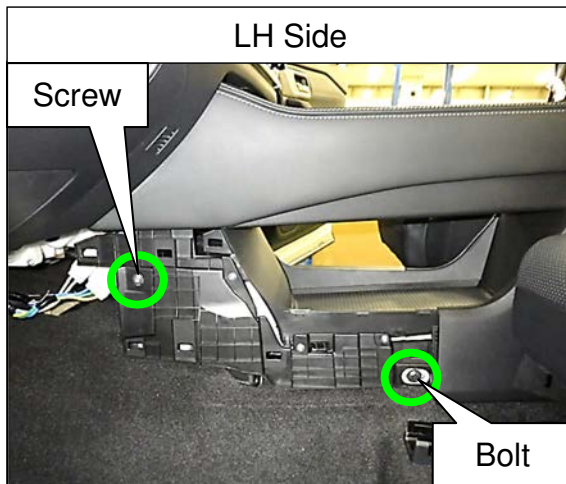

Figure 42
31. Remove the four (4) screws, two (2) bolts, and two (2) nuts securing the center console assembly, as shown in Figure 42 - Figure 45.